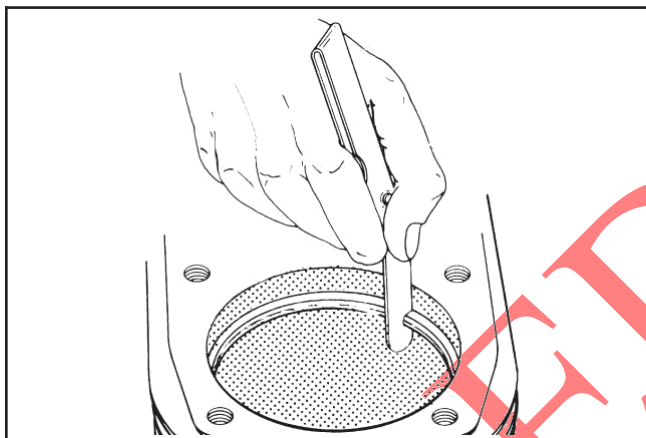

Figure 10-8. Measuring Piston Ring End Gap.
3. Before installing the rings on the piston, place each of the top two rings in its running area in the cylinder bore and check the end gap (see Figure 10-8). This gap should be **0.77 mm (0.030 in.) max.** in a used cylinder bore and **0.3/0.5 mm (0.012/0.020 in.)** in a new cylinder bore.